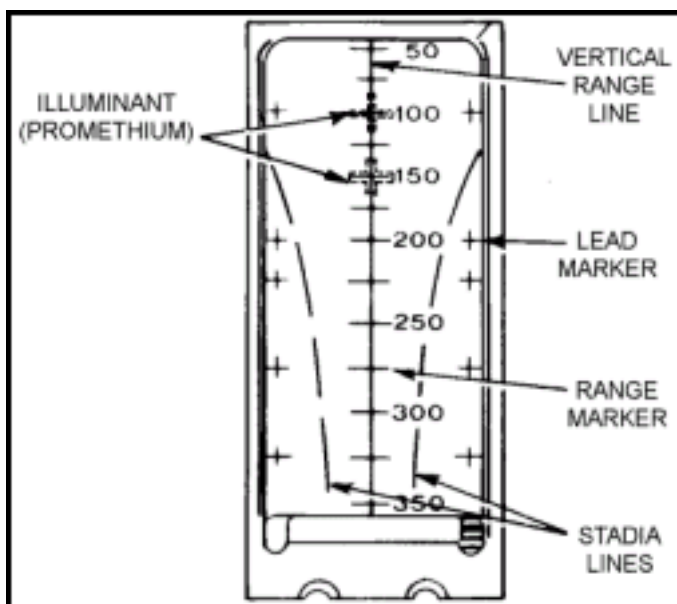
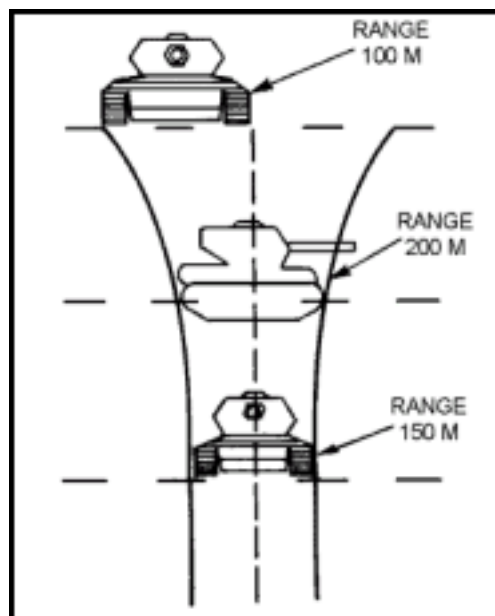

Figure 2-12. M72A1 reticle.
Figure 2-13. Using M72A1 stadia lines to engage targets.
(2) Swing the lower adapter section up and under the rocket launcher and secure it by turning the locking latch clockwise to fully engage the latch shoulder screw.
(3) Place the sight in the groove on the bracket and align the threaded screw hole in the base of the sight with the lever screw assembly. Tighten the lever screw assembly firmly.
(4) Use the M72A1 reticle to estimate the range to a 20-foot target such as a tank viewed from the side (Figure 2-12). Place the sight so that the rear and front of a flanking target fit between the curved vertical lines (Figure 2-13). When you read the range from the scale, note that the width of the tank is about one-half the tank's length. This means you can estimate the range to a target, whether it is headed straight toward you or straight away from you, by placing its sides between the curved vertical lines and halving the range shown at that point. The bottom of each vertical line in the center of the reticle corresponds to an additional 25 meters. The length of a